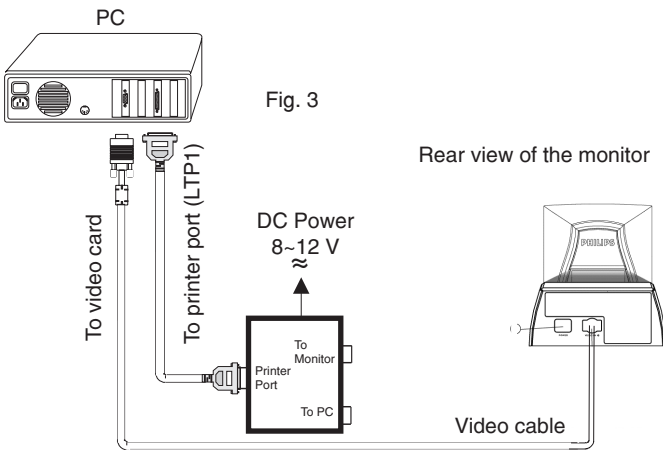

Fig. 3
- Step 2: Connecting printer cable and video cable of monitor as shown in Fig.3.